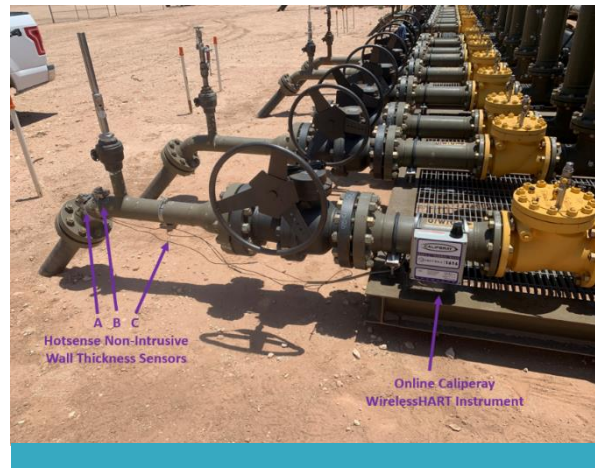

Figure 1: HotSense™ & CALIPERAY installation location
- A CALIPERAY automated UT monitoring node was installed in place of the previously installed Measurement Hub. The previously installed sensors were directly connected to the CALIPERAY without the need for re-installation, Figure 1.